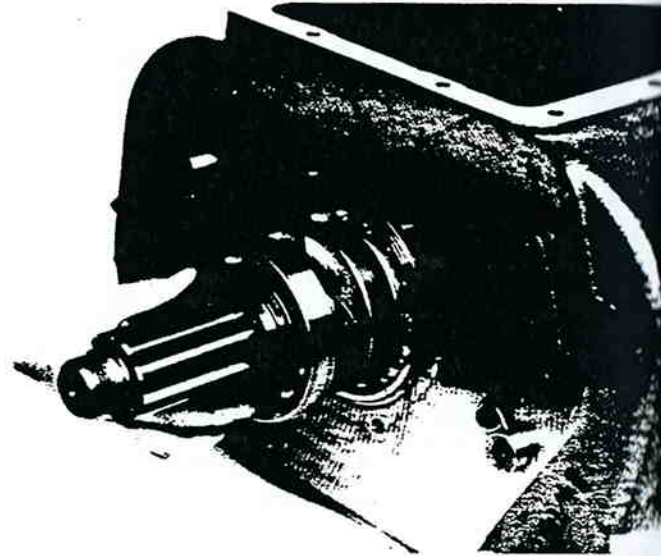

Figure 13-157. Output Bearing Washer Installation.
6. Install the output shaft bearing washer on shaft and against bearing, chamfered I.D. toward bearing (figure 13-157).